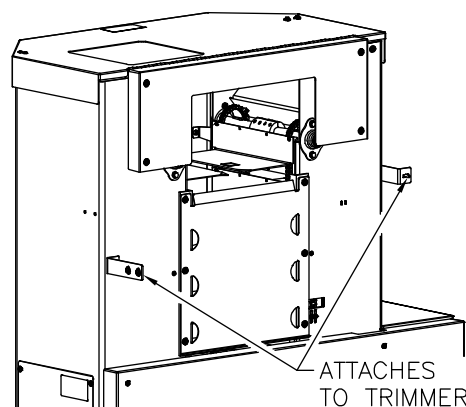

Figure 2-11. Elevator Attachment to Trimmer
- Move the trimmer into position against the elevator, aligning the mounting brackets on the elevator to the corresponding holes in the side of the trimmer. Once the trimmer height is set properly according to Section 2.5 Trimmer Height Setup, attach the elevator to the trimmer using supplied mounting hardware (Figure 2-11).